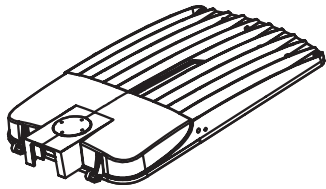

Figure 1
1. Open Fixture Cover (Fig. 1)